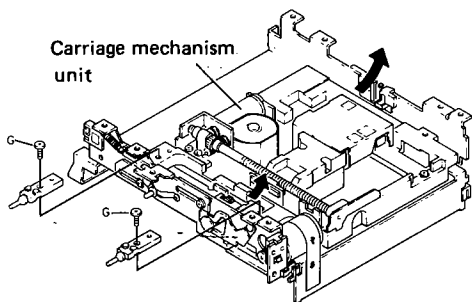

Fig. 23
• Carriage Mechanism Unit Removal (Fig. 23)